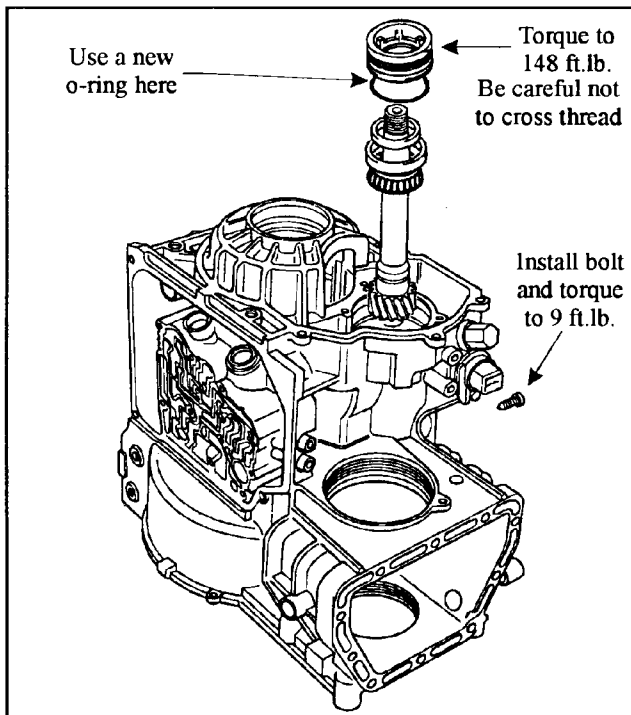

Figure 106
10. Install a new seal and a new rubber o-ring in the bearing housing and thread the housing into the transmission case. Do not cross-thread the housing into the case (See Figure 106). Torque the housing to 148 ft.lb.
12. Coat the locking bolt with a small amount of thread lock and torque the bolt to 9 ft.lb. (See Figure 106).